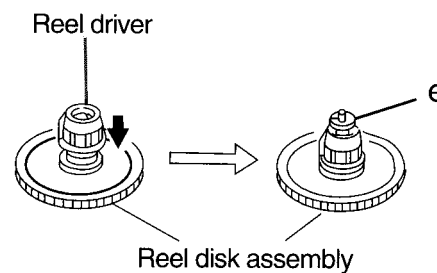

Fig. 7
■ Removing the Reel Disk Assembly (See Fig. 7)